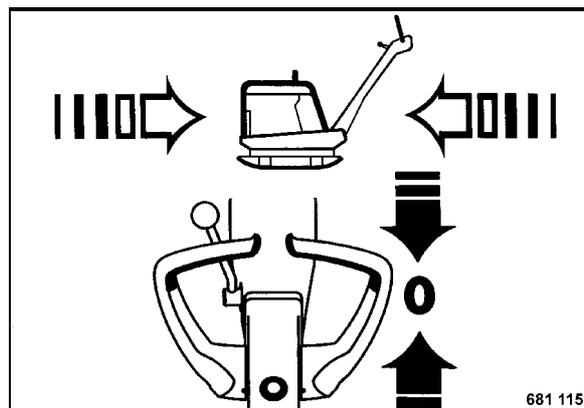

Fig. 29
- Shift the travel lever (Fig. 29) to position "0".